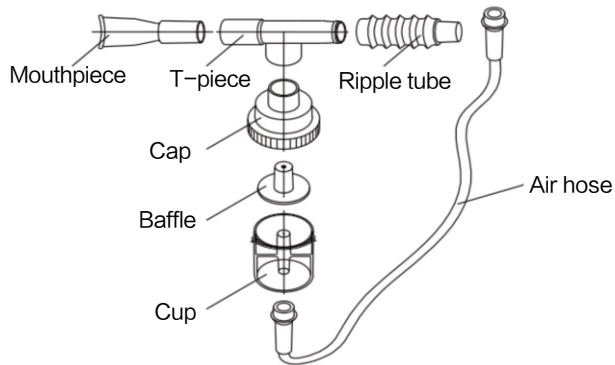

Figure 10: Nebulizer Components
- › Pull out the air hose, pull the mouthpiece, downward pull the cap, empty remained medicinal liquid in the nebulizing cup, then wash the air hose, mouthpiece, cap, baffle, cup, ripple tube, T-piece, etc. , with pure water or immerge them in warm water for about 15 minutes (Figure 10). In order to wash them properly, you may add some vinegar in water.